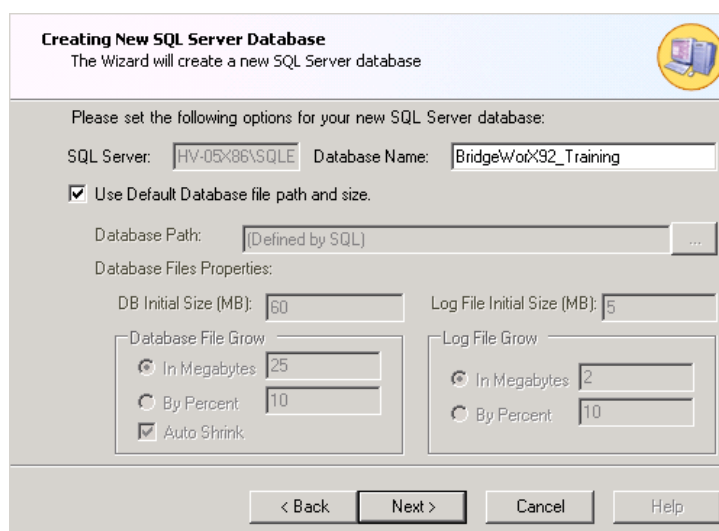

Figure L2.6 - Setting the Database Parameters
6. Type in the **Name** of the database, as shown in Figure L2.6, then click on the **Next** button to create the new SQL Server database.